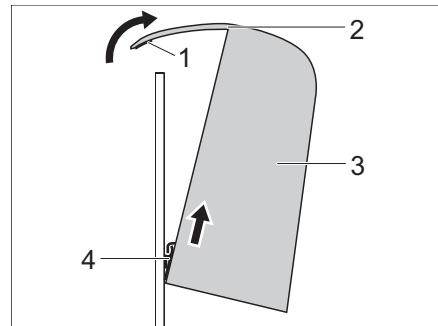

Fig. 72 Remove back cushion
- Tilt the back cushion (Fig. 72,3) forward and unhook the hook strap (Fig. 72,4).
- Hold the back cushion (Fig. 72,3) at an angle and hook the hook strap (Fig. 72,4) onto the bottom.
- Smooth the fabric flap (Fig. 72,2) backwards and press the Velcro fastener (Fig. 72,1) firmly on.